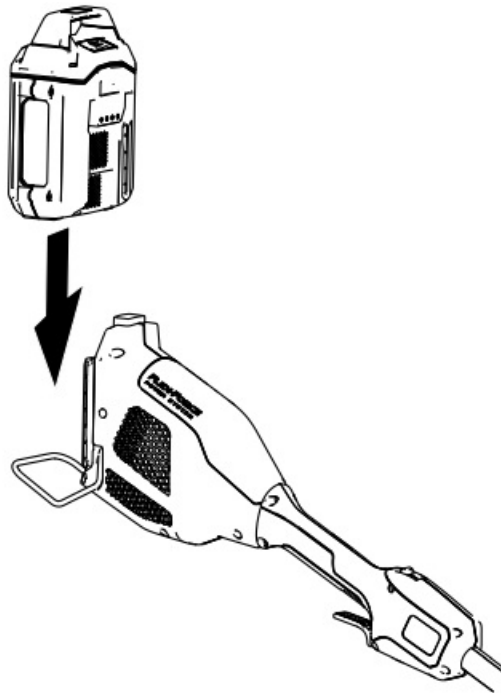

Figure 6
2. Align the cavity in the battery pack with the tongue on the handle housing (Figure 6).